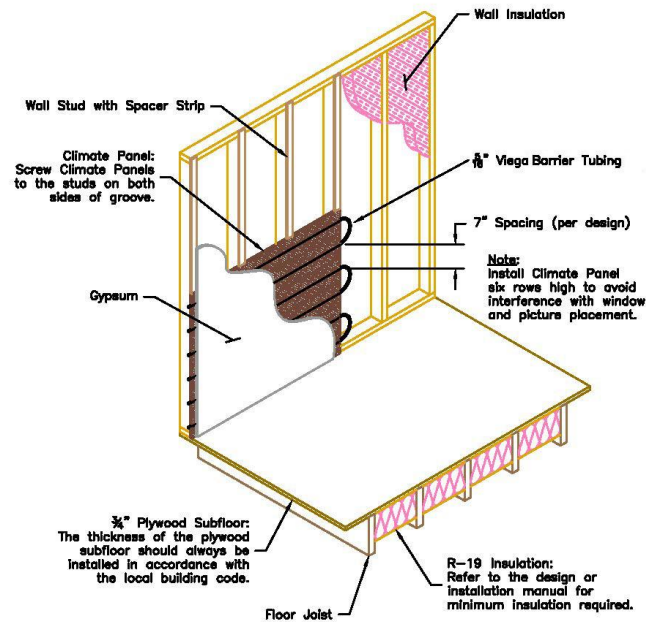

Figure 2 Climate Panel – Wall Gypsum - CP Wall Gypsum
**Climate Panel Walls:** When the tubing is installed in wood-framed walls, the installation begins at floor level on the exterior wall. The Climate Panels are installed parallel to the floor, six rows high, to avoid interference with window and picture placement. The Climate Panels are screwed to the studs on both sides of the groove. One-half-inch-thick (12.7 mm) spacers must be attached to the remainder of the stud wall to provide an even base for the wall covering. See Figure 2.